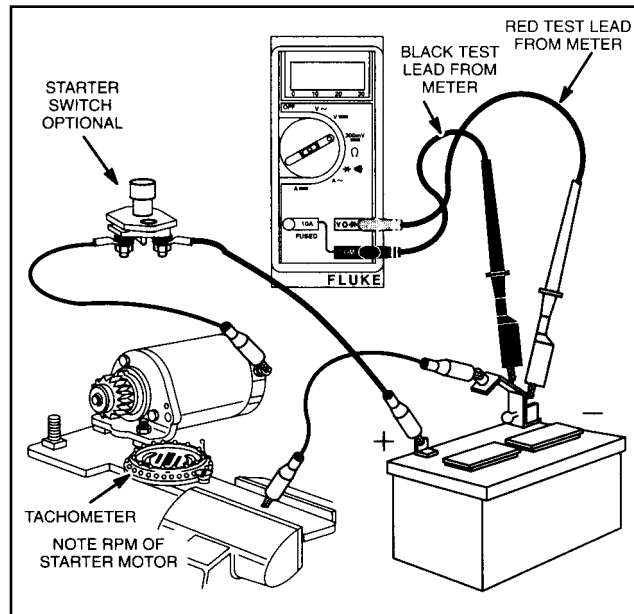

Fig. 6 - Testing Starter Motor
It is recommended that the starter motor be removed from the engine when testing starter motor performance. Remove rotating screen and blower housing. Remove two starter motor mounting screws. Assemble starter to test bracket and clamp test bracket in vise, Fig. 6.
1. The DC Shunt MUST be installed on the negative (-) battery terminal as shown in Fig. 6.